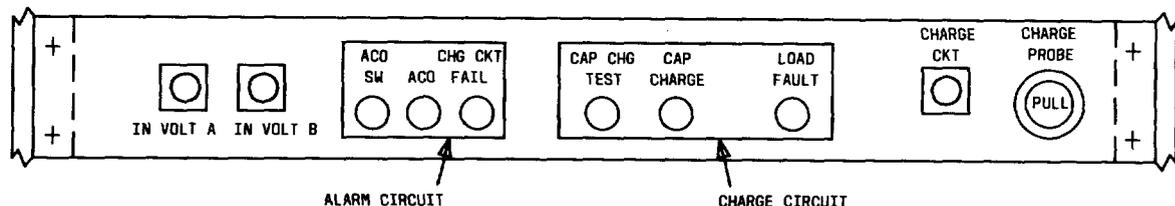
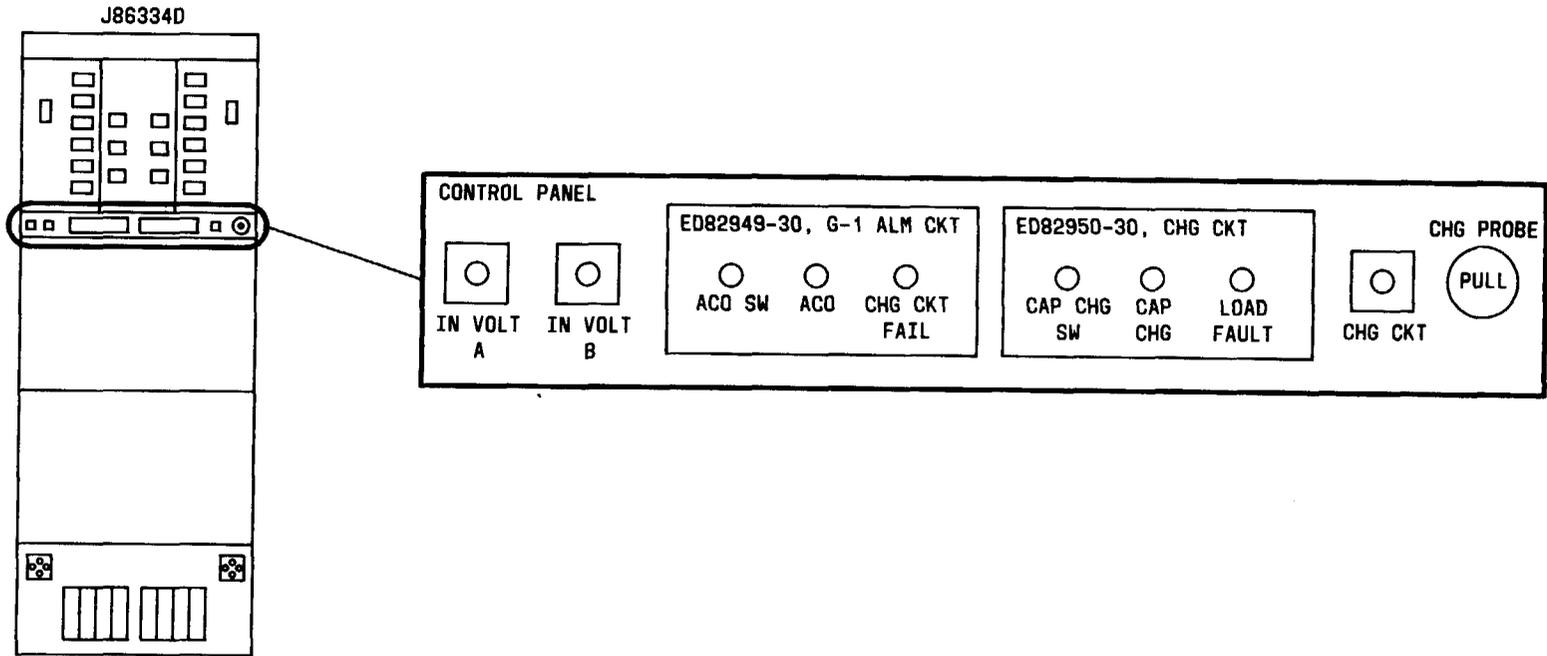

Fig. 3—Control Panel Assembly for J86334B and J86334C
Fig. 4—Control Panel Assembly for J86334D
2.06 The ED-82947-30, GR10, and ED-83024-30, GR1, control panels (Fig. 3 and Fig. 4, respectively) contain an alarm circuit and, when wired for -48 volt output, a charge circuit module and a charging probe. The control panel wiring is fused by FF1 and FF2 and is powered by two ORed battery sup-